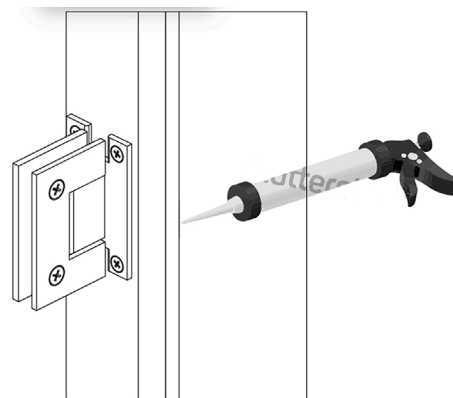

FIGURE 13
Apply a bead of silicone where the Wall Jamb (A) meets the wall on **BOTH** sides. (See Figure 13)